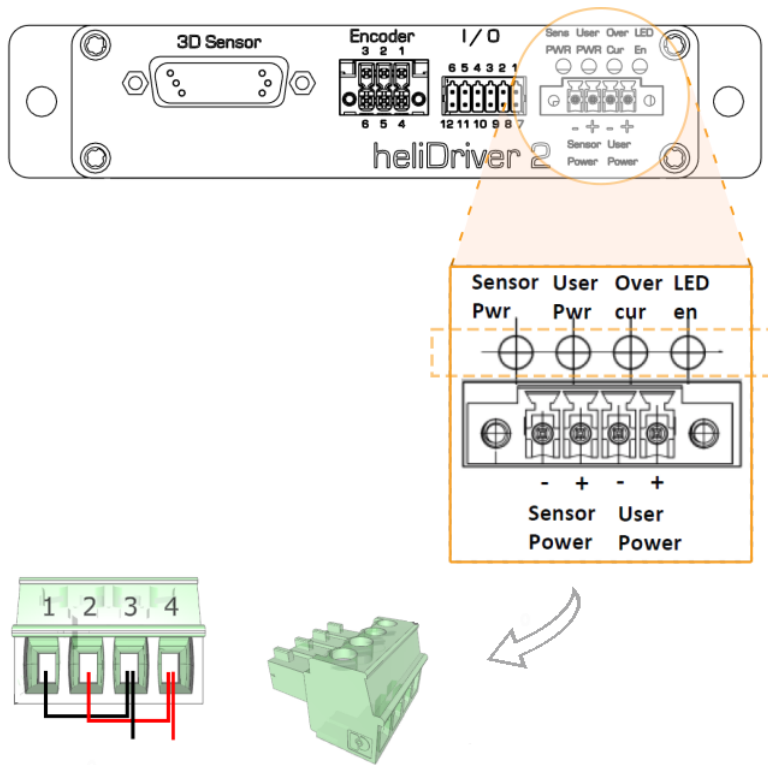

Figure 9: Recommended wiring
- a. Ensure the 24 V DC voltage supply (» Fig. 9)